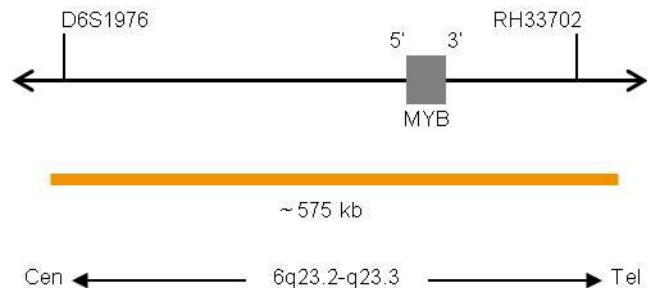

Fig. 1: SPEC MYB Probe map (not to scale)
- ZyOrange (excitation 547 nm/emission at 572 nm) labeled polynucleotides (~4.5 ng/ μ l), which target sequences mapping in 6q23.2-q23.3* (chr6:135,141,227-135,715,246) covering the MYB gene (see Fig. 1).